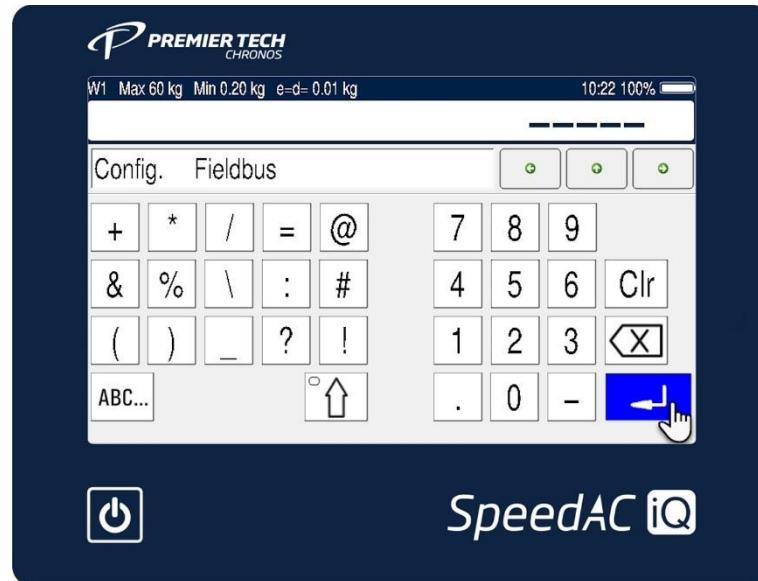

Figure 4: Fieldbus Configuration Screen Access
- Locate the **Fieldbus** option and validate as per **Figure 4**.